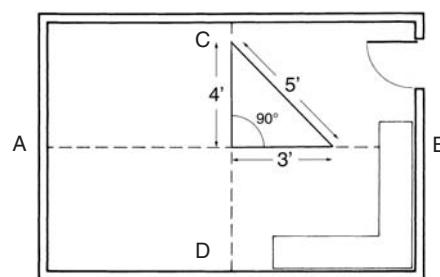

Fig. 7 - Square layout.
- Find the center of the line and snap a second chalk line at a right angle; use the 3', 4', 5' method to form a right angle (Fig. 7).